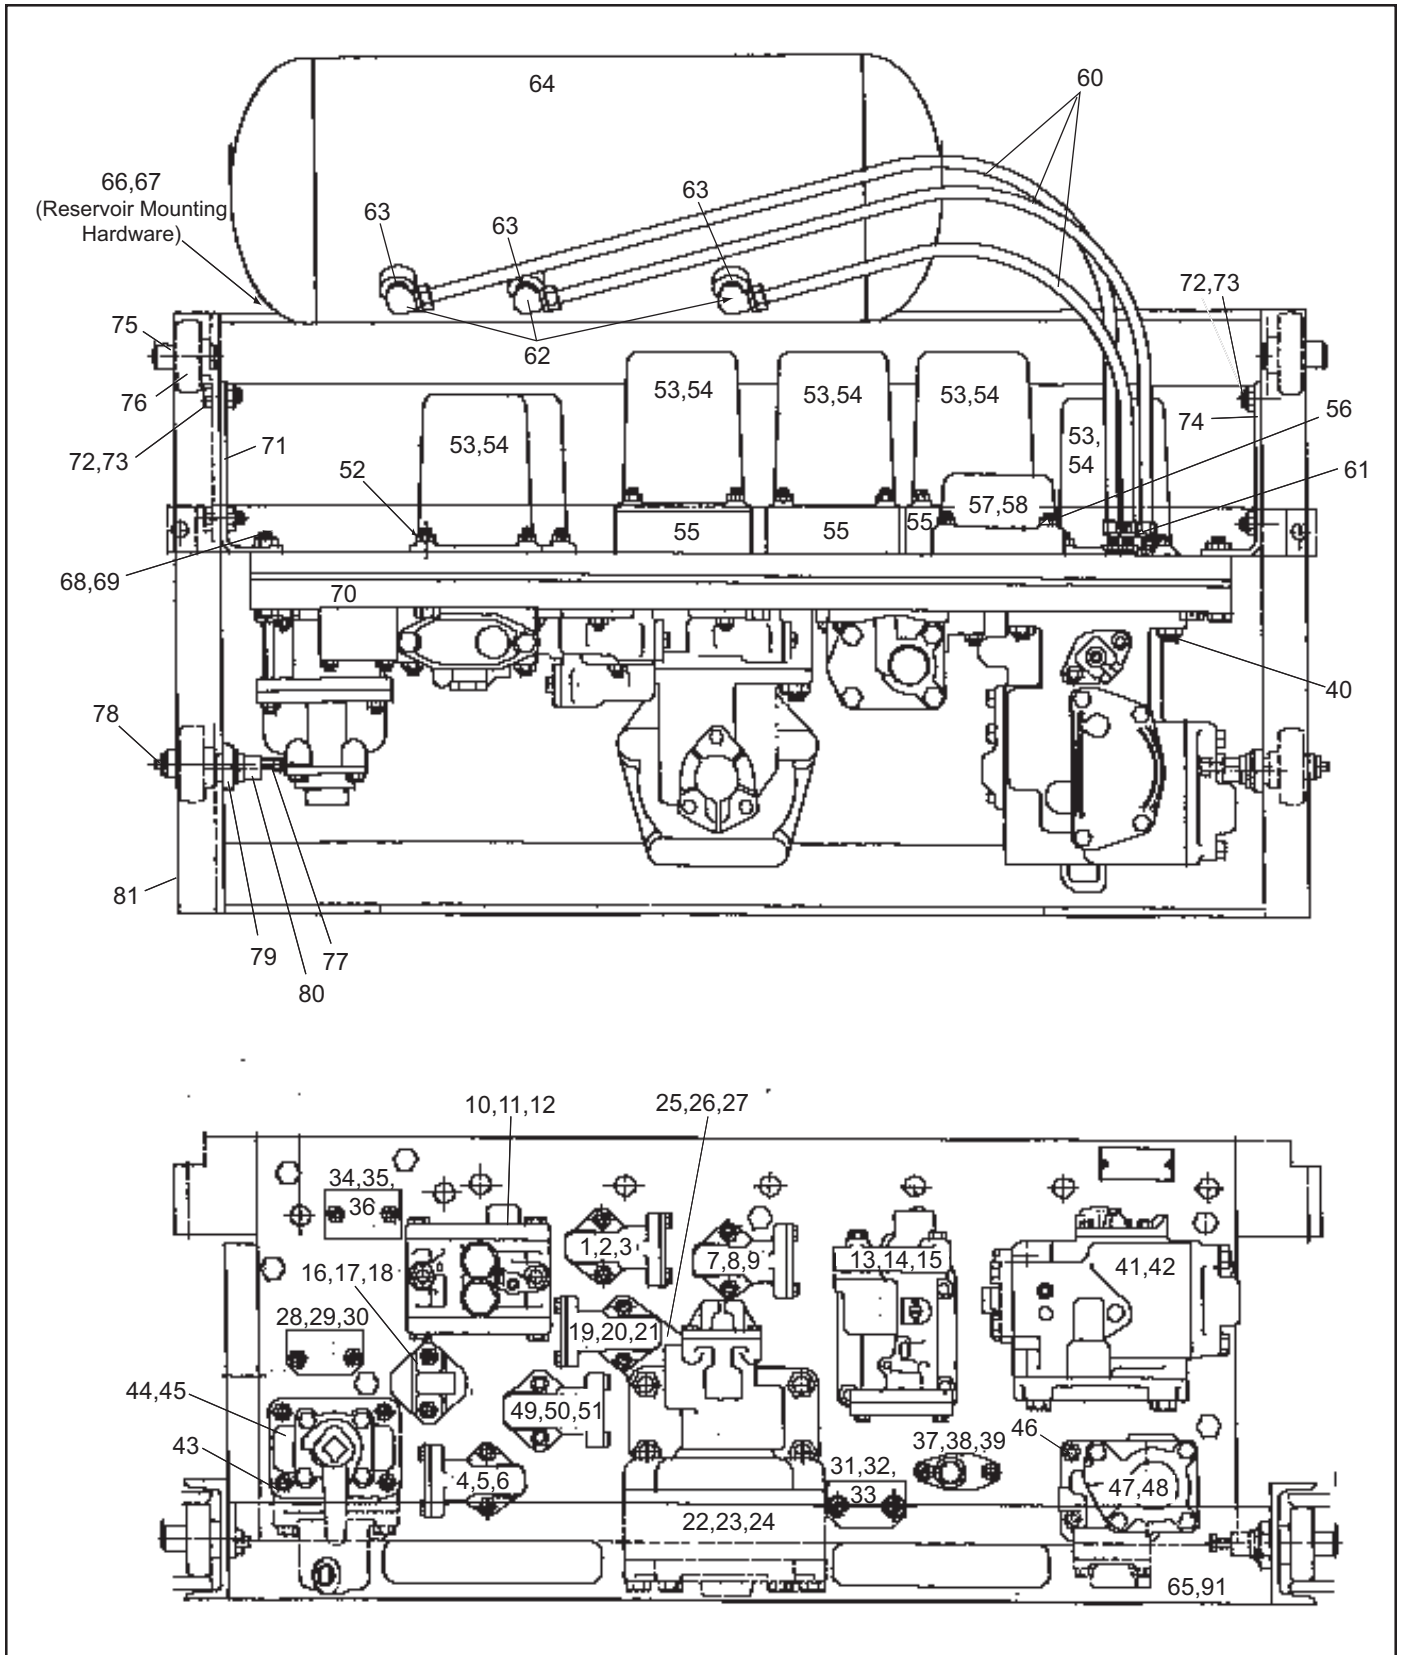

Figure 1 - Part No. 654991
6.2.6 **IMPORTANT:** Refer to Figure 1 and to the current issue of The Wabtec Corporation Parts Catalog 3201-15 for the location of the Components or the 26-LU-L Bracket- Carriage and Equipment.